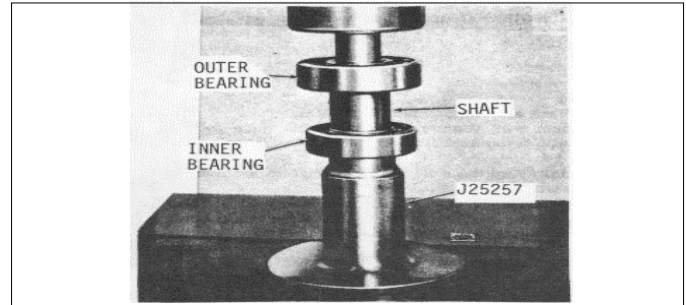

Fig. 5 Pressing Bearing on Pump Shaft
- (1) Lubricate the bearing bores and shaft bearing surfaces. Use bearing and gear installer J 25257 and install the bearings on the shaft (Fig. 5).